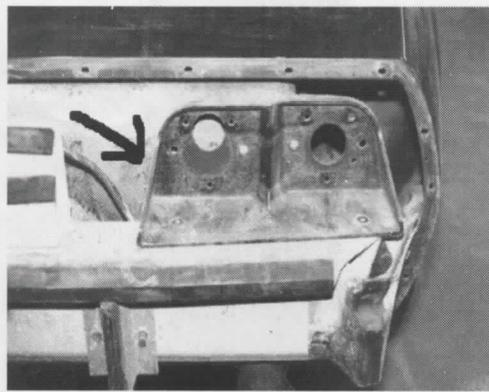

FIG. 6
6. REMOVE LEFT AND RIGHT TAIL LIGHT HOUSINGS FROM IMPACT BAR (SEE FIG. 6).